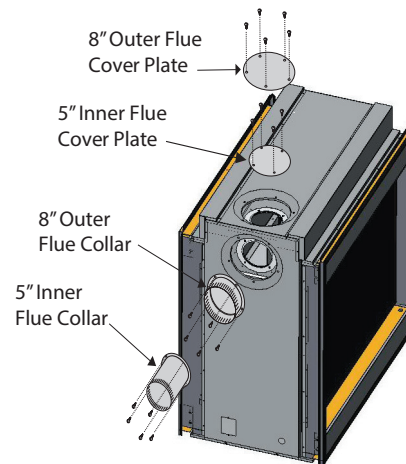

Figure 9a. Flue cover and collar installation, Side Vented fireplace.
3. Install the (removed) Side flue cover and gasket material, to the Top vent outlet. Fasten the cover with included hardware, as illustrated Figure 9a.